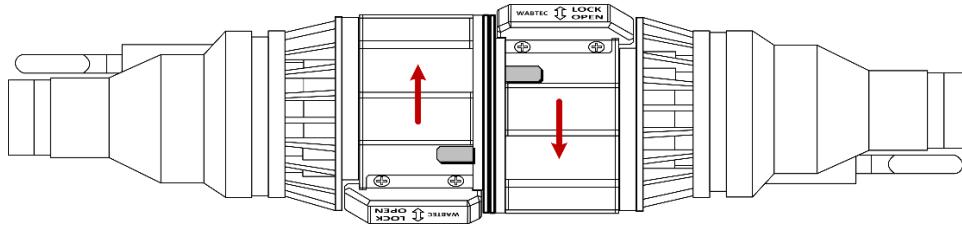

Figure 29: Connectors Mated and in the Open Position
2. Grasp one Inline Connector in each hand and turn the Rotatable Coupling Ring on each Inline Connector in the direction of the arrows in Figure 29 so that both Connectors will be in the Open position.